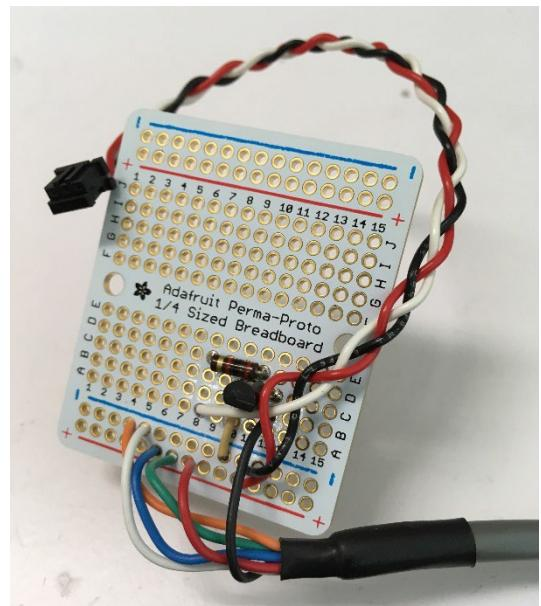

Figure 60 Completed breadboard for audio cue system
- See Figure 60 for the results of this step.